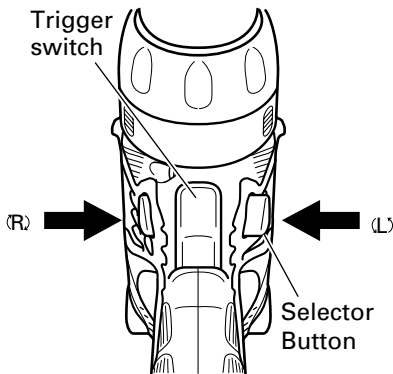

Fig. 20
The L-side of the selector button is pushed to turn the bit counterclockwise. (See Fig. 20) (The (L) and (R) marks are provided on the selector button.)